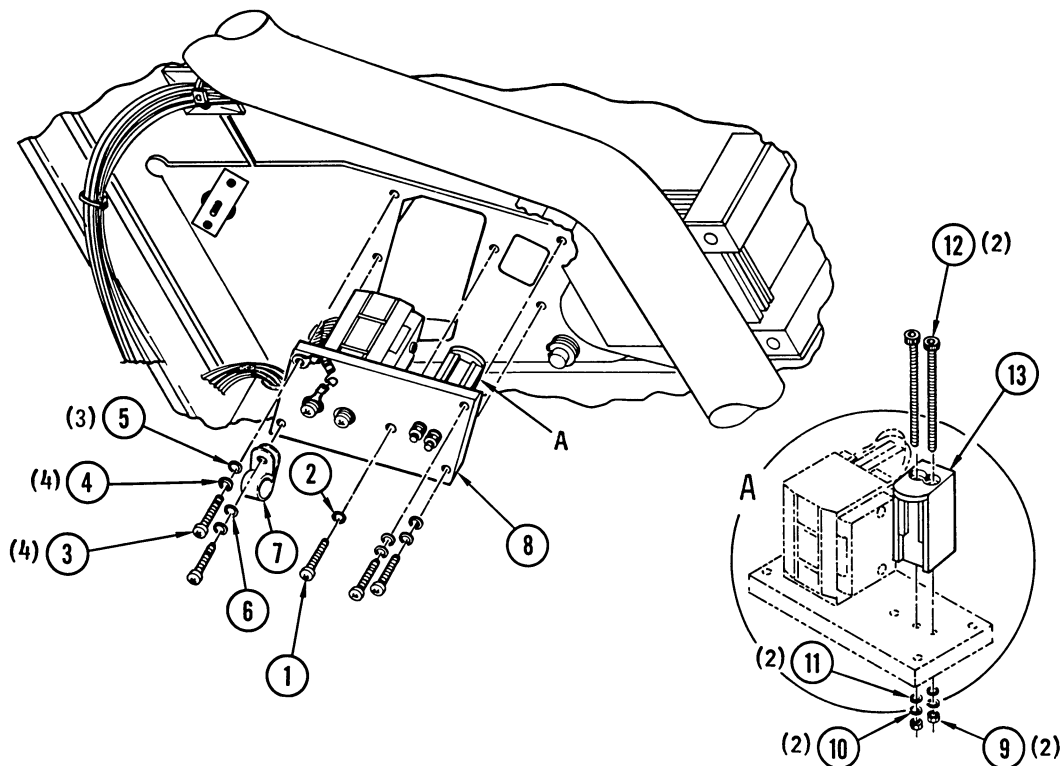

Figure 4-10. Head Assembly
4-24. Removal and Replacement of Assembly and Parts (Figure 4-10). Place the transport in service access position in accordance with instructions in paragraph 4-3 and proceed as follows:
It is not necessary to remove complete assembly from top plate in order to remove tape scraper (13, Figure 4-10). Refer to paragraph 4-24, f. If head is defective and in need of replacement, entire head assembly (8), including tape scraper (13) must be replaced.
- b. Working from under side of top plate, remove center adjustment screw (1), flat washer (2), four screws (3), and lockwashers (4), three flat washers (5), one flat washer (6), and cable clamp (7) supporting assembly (8) with one hand as last screw is removed. Identify wire terminal and cable clamp as to position from which removed, and save attaching parts for reinstallation.
- c. Pull assembly (8) and wire harness carefully down through hole in top plate and cables over air intake tube.
- d. Install replacement assembly in reverse order of sequence in steps b and c, carefully pushing head and connectors through hole in top plate and attaching wire terminal and cable clamp in positions from which removed. Do not tighten center adjustment screw (1) at this time.
- f. If tape scraper (13) only is to be replaced, remove two socket-head screws (12), nuts (9), lockwashers (10), and flat washers (11). Save attaching parts for reassembly, and install replacement scraper in reverse order of removal.
- g. Adjust tape scraper (13) as follows:
- (1) Insert and load a tape.
- (2) Loosen socket-head screws (12) and move tape scraper away from tape.
- (3) Slowly move tape scraper toward tape until it contacts tape.